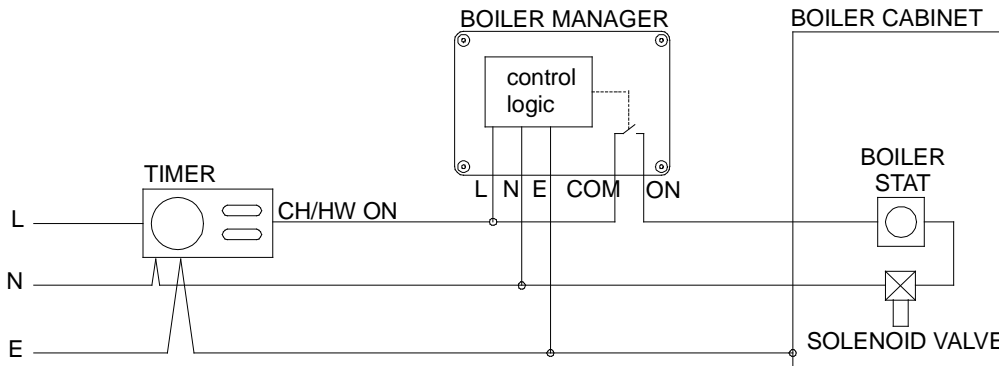

FIGURE 3: WIRING DIAGRAM (INLINE CONFIGURATION)
- If the existing control system has a power connection directly from the timer/programmer to the gas valve/boilerstat inside the boiler cabinet and nothing else in the cabinet, the Boiler Manager can be installed 'in-line'. See the wiring diagram in Figure 3.